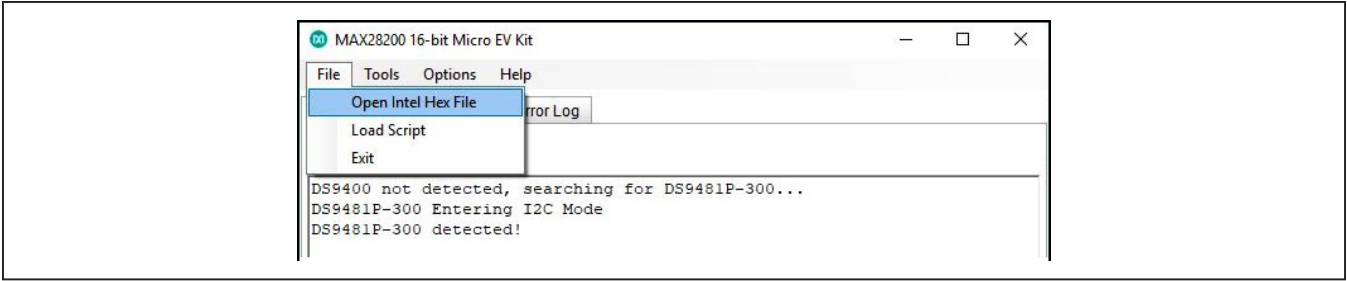

Figure 7. Select .hex File to Load into the Device
- 3) Select the **File** tab and click **Open Intel Hex File** and navigate to the desired .hex file (Figure 7).